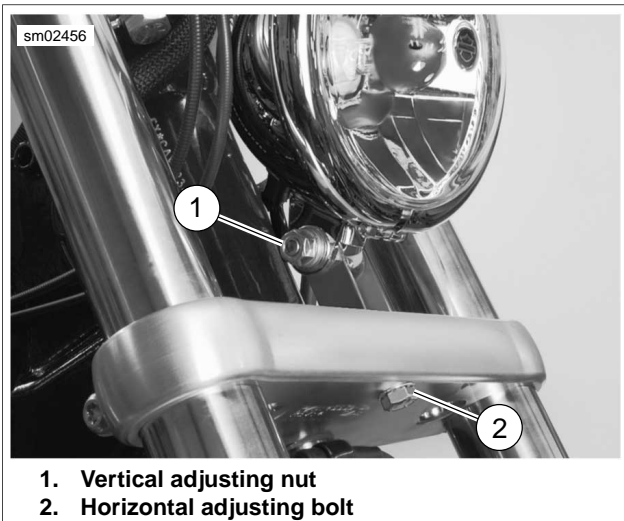
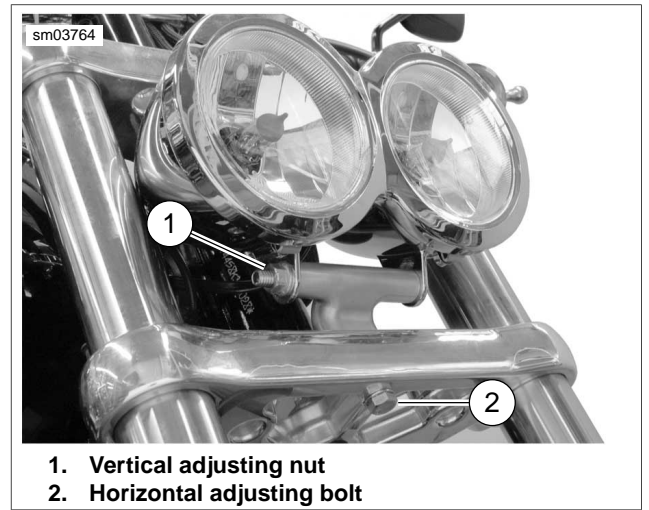

Figure 1-48. Headlamp Adjustments: Single Bulb
Figure 1-49. Headlamp Adjustments: Dual Bulb
1. See Figure 1-48 or Figure 1-49. Loosen horizontal adjusting bolt (2) to adjust headlamp beam side to side. Tighten bolt to 25-30 ft-lbs (33.9-40.7 Nm).
2. Loosen nut on vertical adjusting nut (1) to adjust headlamp beam up or down. Tighten nut to 25-30 ft-lbs (33.9-40.7 Nm).